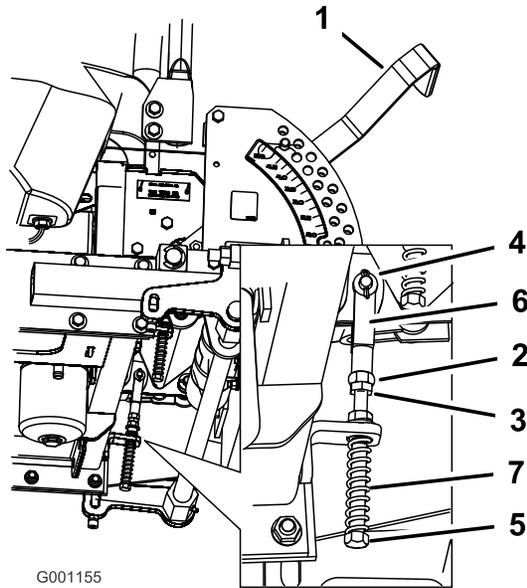

Figure 97
8. If adjustment is needed, loosen the nut and jam nut against the yoke (Figure 97).
- Apply slight rearward pressure on the motion-control lever, turn the head of the adjustment bolt in the appropriate direction until the control lever is centered in the NEUTRAL-LOCK position (Figure 97).
- Tighten the nut and jam nut (Figure 97).